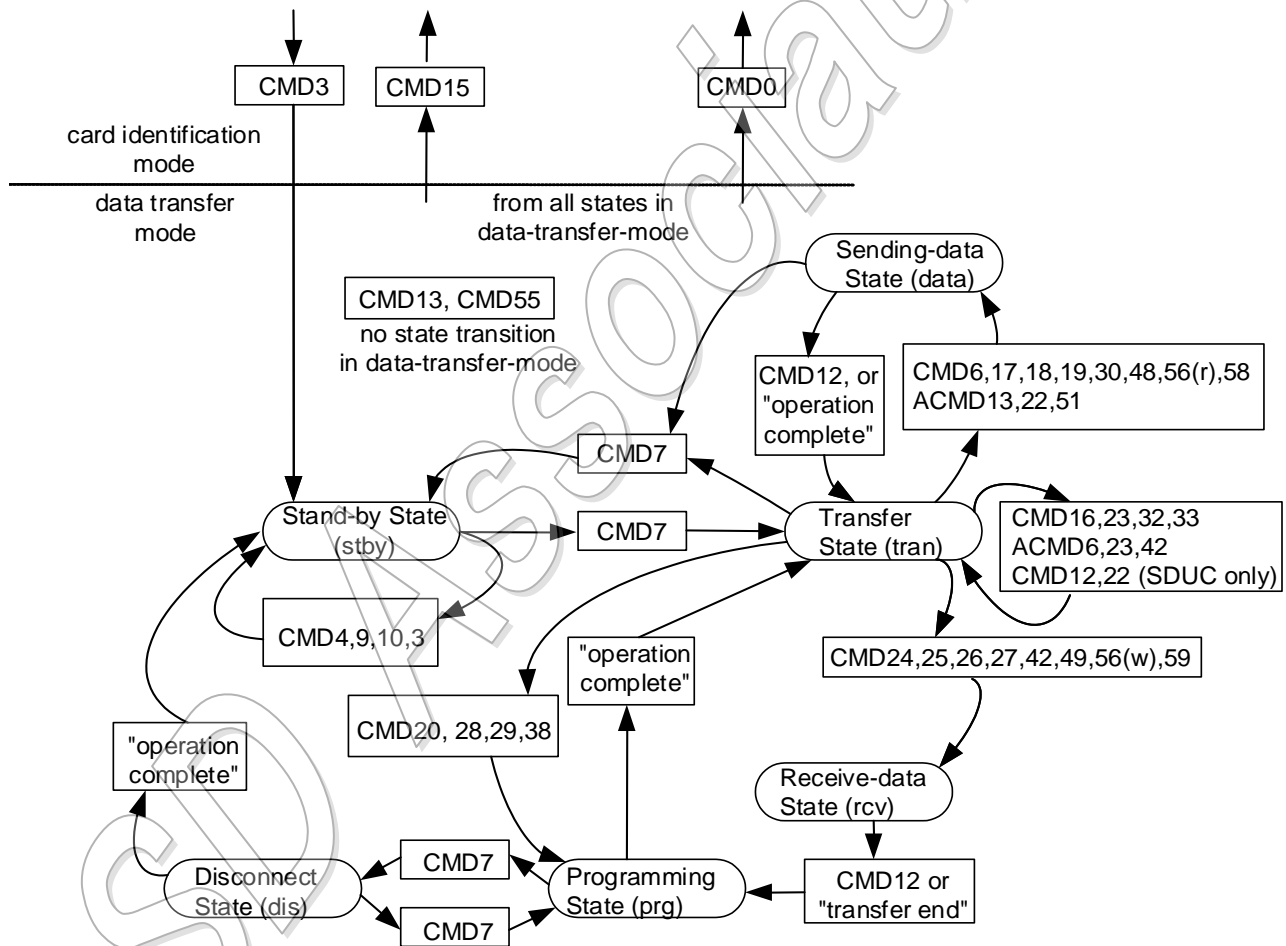

Figure 4-13 : SD Memory Card State Diagram (data transfer mode)
- All data read commands can be aborted any time by the stop command (CMD12). The data transfer will terminate and the card will return to the *Transfer State*. The read commands are such as block read (CMD17), multiple block read (CMD18), send write protect (CMD30), send SCR (ACMD51) and general command in read mode (CMD56). (Refer to Figure 4-13 for more details.)
- All data write commands can be aborted any time by the stop command (CMD12). The write commands shall be stopped prior to deselecting the card by CMD7. The write commands are such as block write (CMD24 and CMD25), program CSD (CMD27), lock/unlock command (CMD42) and general command in write mode (CMD56). (Refer to Figure 4-13 for more details.)
- The card may provide buffering for block write. This means that the next block can be sent to the card while the previous is being programmed. If all write buffers are full, and as long as the card is in *Programming State* (see SD Memory Card state diagram Figure 4-13), the DAT0 line will be kept low (BUSY).